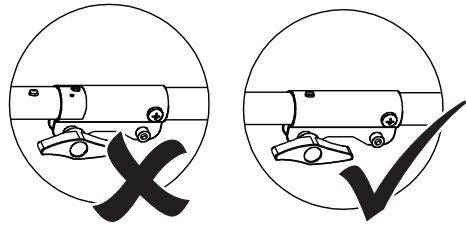

Fig. 2
3. Make sure the pin (15a) snaps in place (Fig. 2).